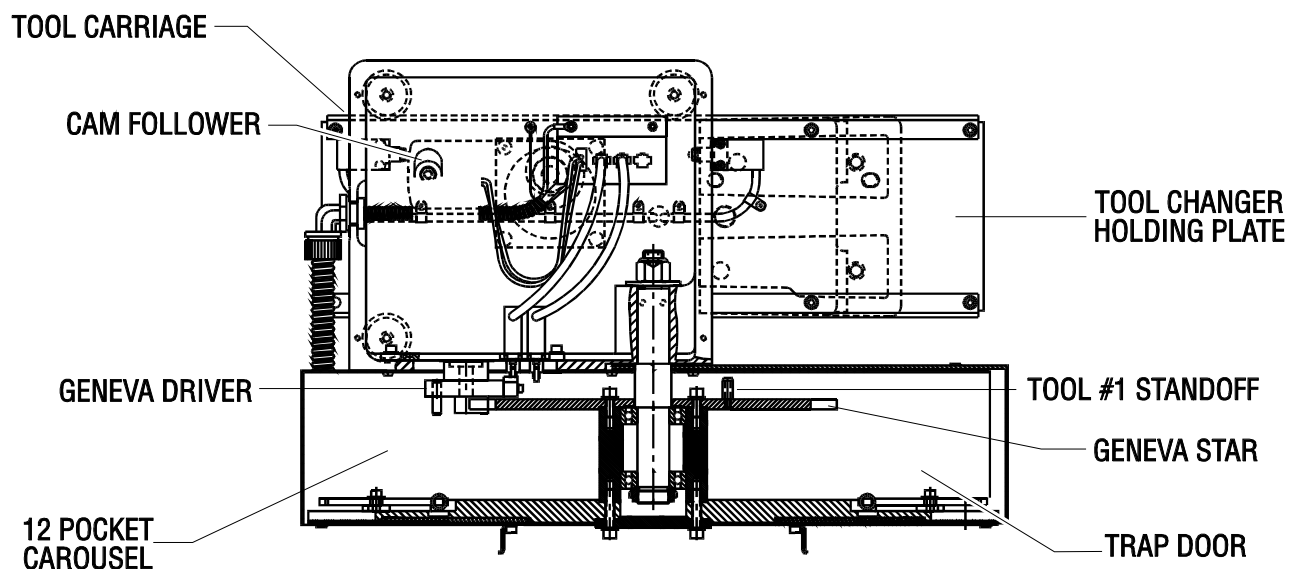

Fig. 12-2 Automatic Tool Changer - Mechanical Assembly (Side View)
3. Remove the hex bolt that attaches the cam follower to the slip clutch (see Fig. 12-2).